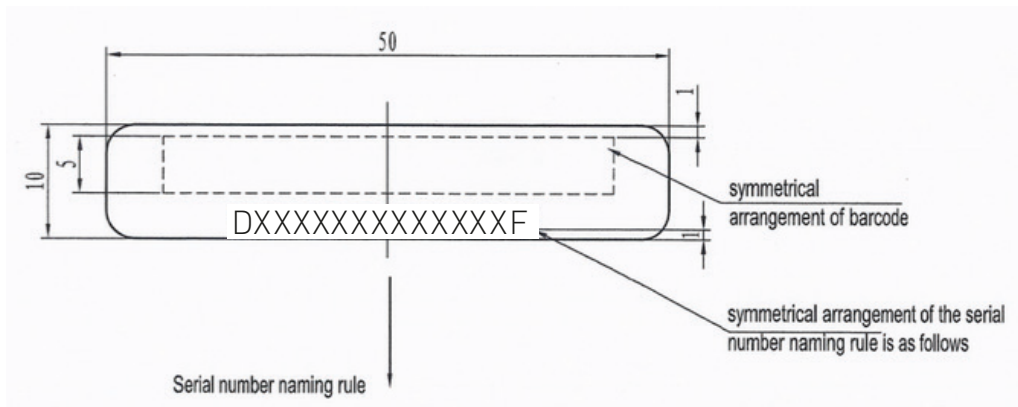

FIG 1: THE CODE RULE OF BARCODE
- Barcode: Each module has a unique serial number, see FIG.1 as below, the serial number has 15 digits. The capital letter "D" is the short name for DENIM. The second digit refers to the cell manufacturer, capital letters used to represent, for example, "A". And the 3rd digit refers to the modules manufacturer address, capital letters used to represent, for example, "C". The 4th digit refers to the modules production month, capital letters used to represent. For example, "A" refers to "January", "L" refers to "December". The 5th digit refers to the modules production workshop, "1" refers to the "1 workshop". The 6th and 7th digits refer to the modules production year, for example, "12" refers to the year of "2012". The 8th to 13th six digits refer to serial number from "000001" to "999999". The 14th refers to the identification code for the type of cells, capital letters used to represent, but for the traditional modules it can be omitted. For example, "A" refers to "New Pattern". The last digit refers to bonded products, capital letter "F" used to represent, but for the non-bonded products it can be omitted. There are three barcodes on one module. One is permanently attached to the interior of the module visible when viewing from the front of the module. This barcode is inserted at the laying-up process. One is attached near the nameplate. And another is attached on the paper run-card.